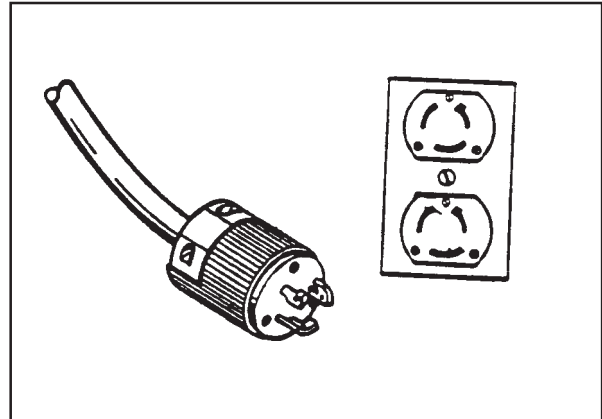

Figure 1
**⚠ CAUTION:** This machine will operate only on AC frequency and on electrical voltage shown on the equipment nameplate. Make sure you have the correct frequency and voltage before connecting the power cord to an outlet. See the example in figure 1.